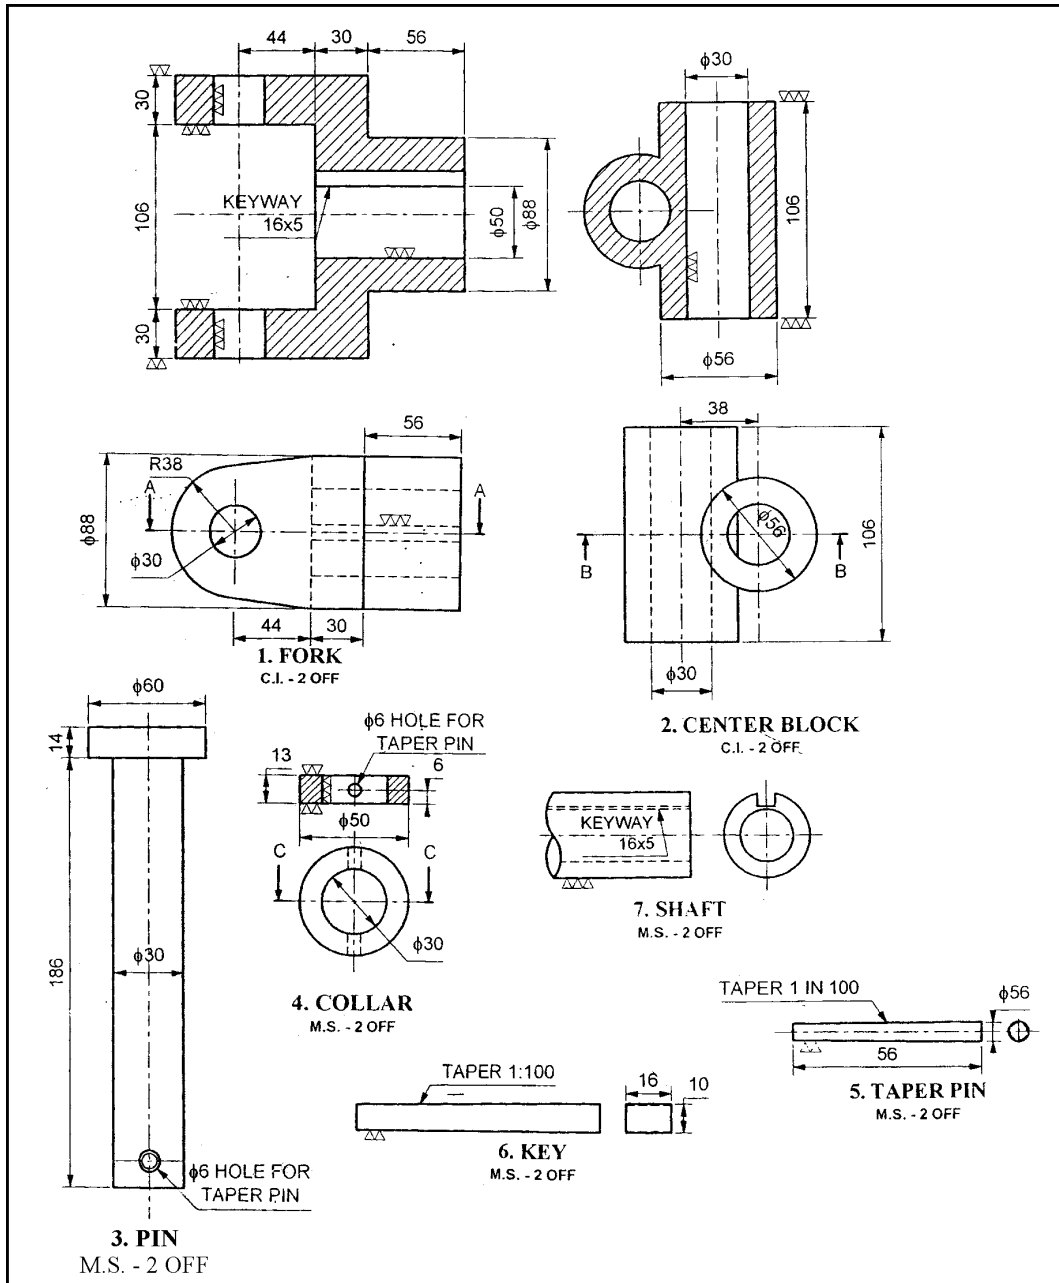

Fig. 4
- (a) Fig. 4 shows the details of universal coupling. Draw the following views of assembly :